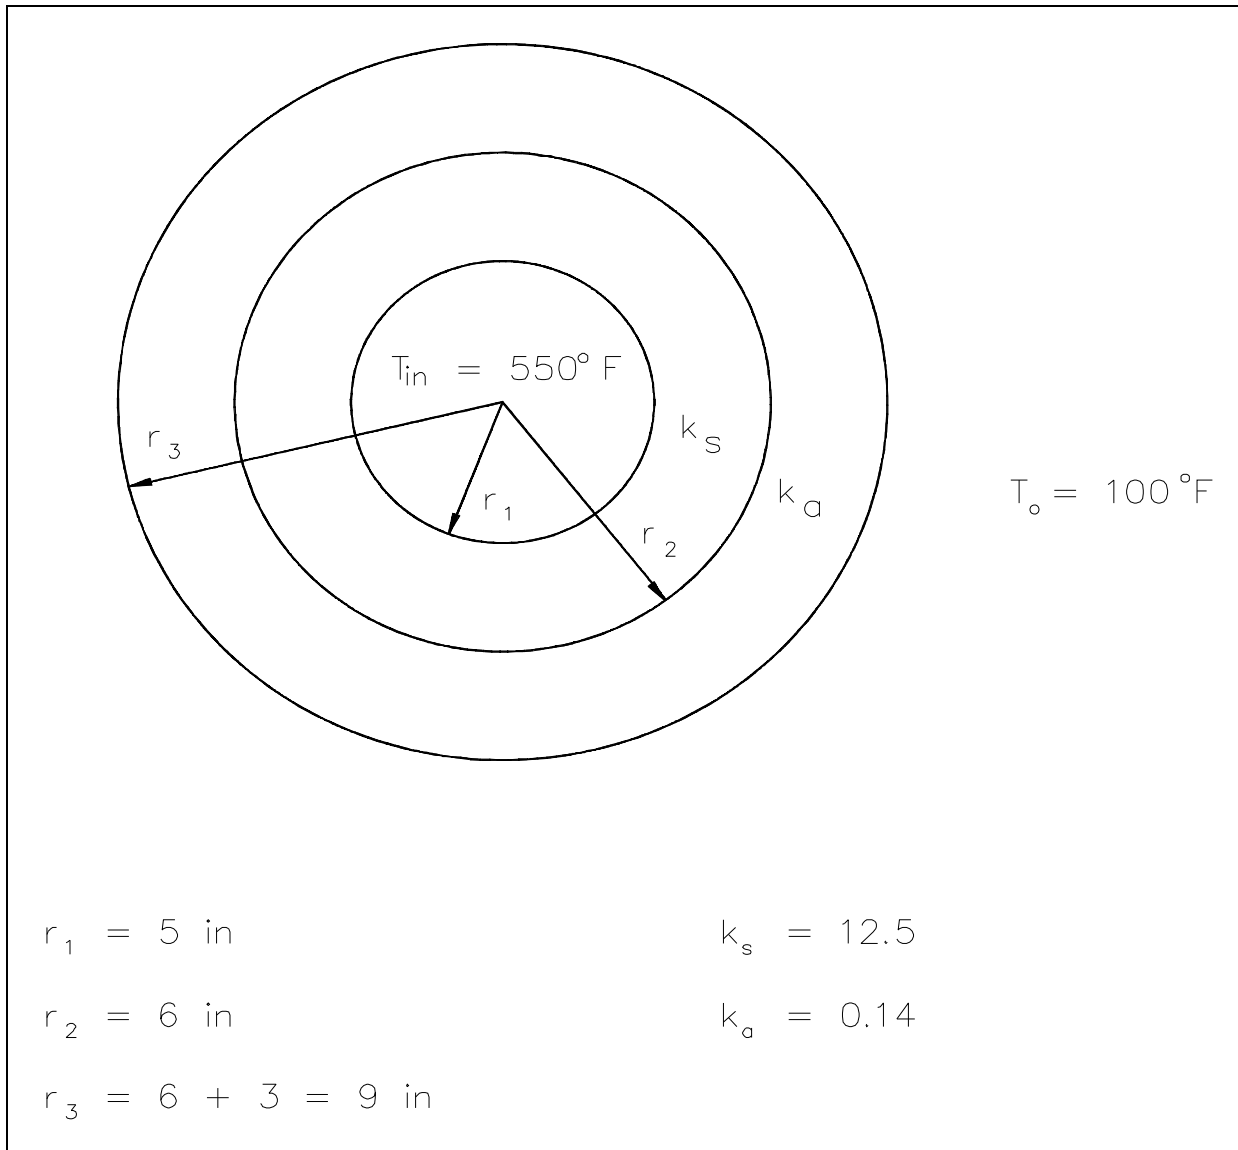

Figure 5 Pipe Insulation Problem
A thick-walled nuclear coolant pipe ($k_s = 12.5$ Btu/hr-ft-°F) with 10 in. inside diameter (ID) and 12 in. outside diameter (OD) is covered with a 3 in. layer of asbestos insulation ($k_a = 0.14$ Btu/hr-ft-°F) as shown in Figure 5. If the inside wall temperature of the pipe is maintained at 550°F, calculate the heat loss per foot of length. The outside temperature is 100°F.